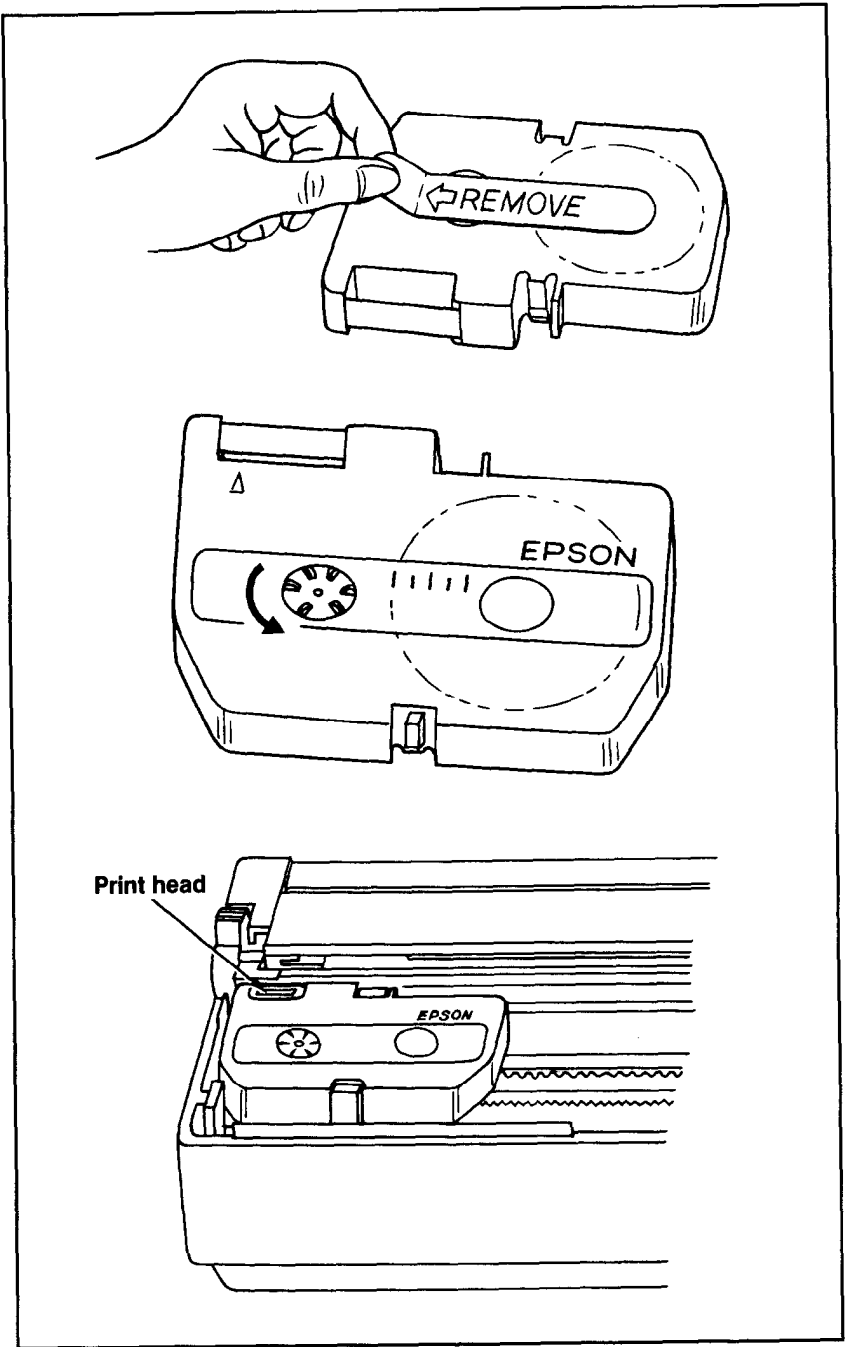

Figure 1-6. Installing the ribbon
The P-80's ribbon cassette is easy to install. You never have to worry about getting ink on your hands. Just follow these simple steps and refer to Figure 1-6 for quick installation:
3. As Figure 1-6 shows, take up any slack in the ribbon by turning the ribbon counterclockwise until it is taut.